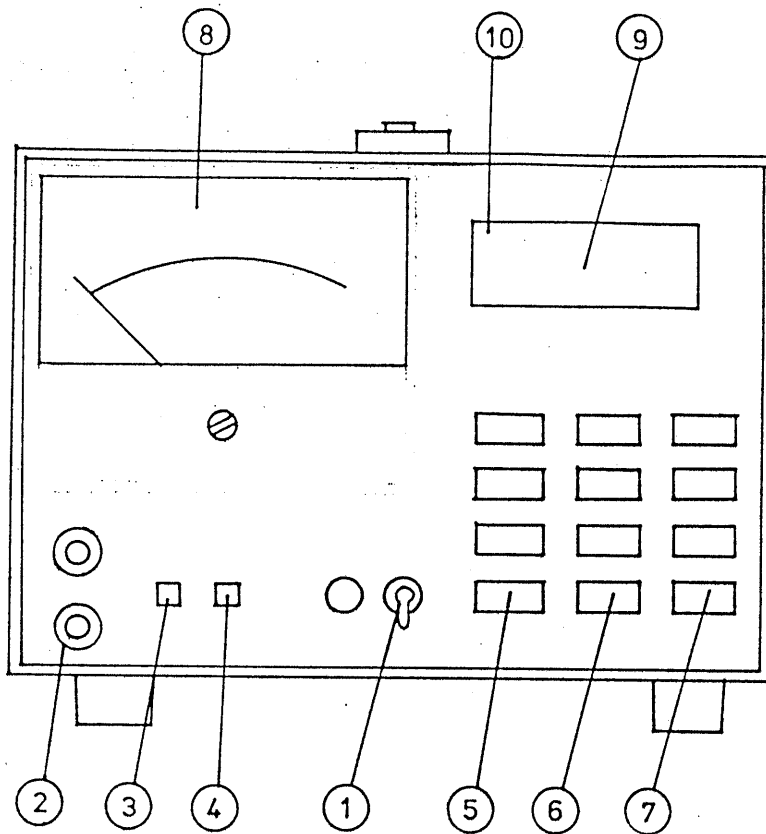

Fig. 3-1 Layout of components on front panel
3.1 Explanation of Front Panel (Refer to Fig. 3-1.)